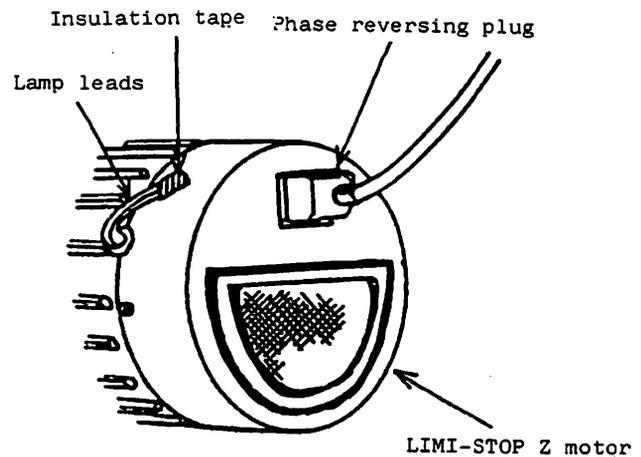

Fig. 4.9 Work lamp leads
- (2) For lamp, use that having the specified rating (6V 15W).
- (3) When a work lamp is not used, the two leads should be kept insulated by tape (see Fig. 4.9).
Direction of rotation of the motor can be changed (reversed) by removing, turning 180° and then setting the phase-reversing plug. When the plug is set, be sure to fully insert it into the socket (see Fig. 4.9).